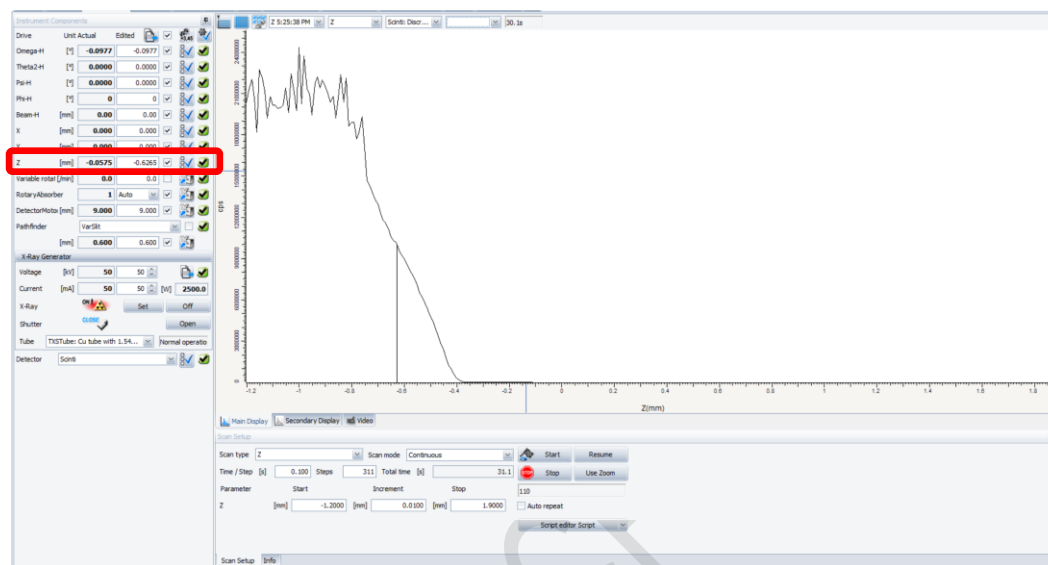

Fig 6-9 Z scan
6.7.4.2 Scan parameters: Scan type: Z, Scan range: -1.2 ~ 1.9, Increment: 0.01 or 0.005°/step, time/step: 0.1 s/step, find the Z height at half maximum intensity (~11000 Kcps), double click send the value to Z-axis box (Fig 6-9).